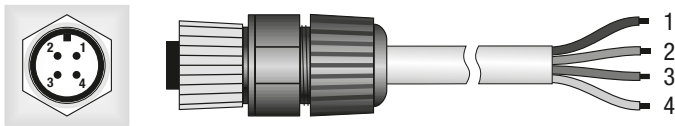

Fig. 4
- The optional cable, with the M12 female connector at one end, is made of UV-resistant PTFE and it is equipped with 3 wires plus shield. The correspondence between cable colors and connector pins is (figure 4):